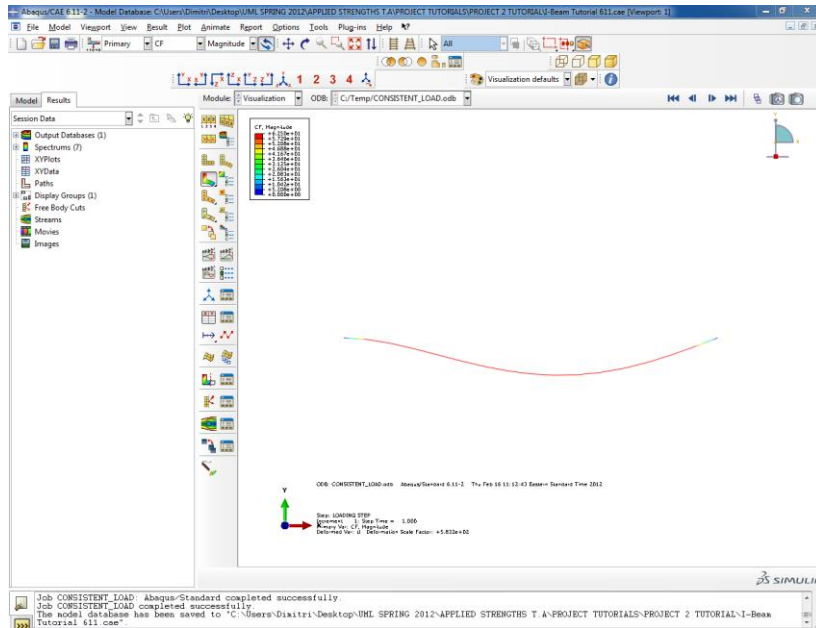

Figure 49. Deformed Shape
- To view the deformed shape of the model, click the **Plot Contours on Deformed Shape** icon  in the **Visualization** module. The model should look similar to that in Figure 49.